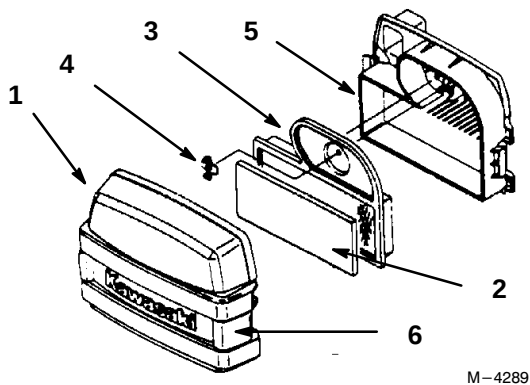

Figure 23
2. Clean around the air cleaner to prevent dirt from getting into the engine and causing damage. Unlatch two side latches and remove the air cleaner cover (Fig. 23).
3. Carefully remove the foam element from the paper element (Fig. 23).
4. Unscrew the wing nut and remove the paper element (Fig. 23).
1. Carefully slide the foam element into the paper air cleaner element (Fig. 23).
2. Place the air cleaner assembly onto the air cleaner base and install wing nut (Fig. 23).
3. Install the air cleaner cover and latch (Fig. 23).